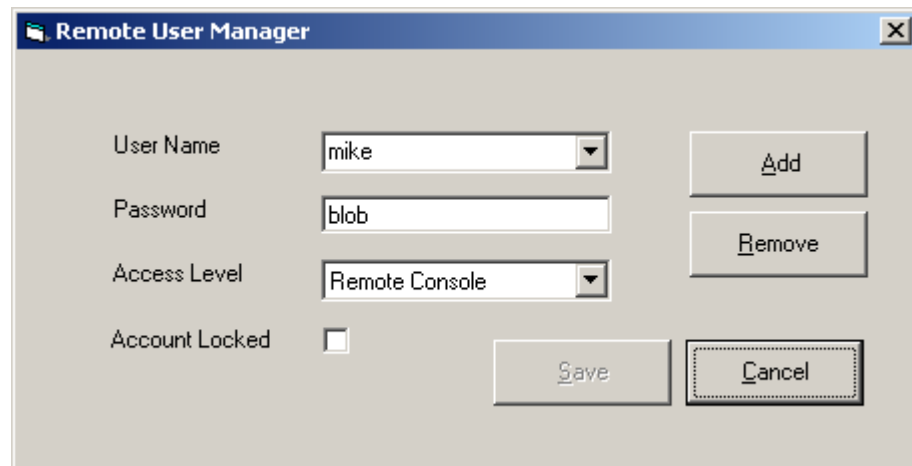

Figure 5.6 Remove User Account
- 3 Select the user name to be deleted (Figure 5.6).